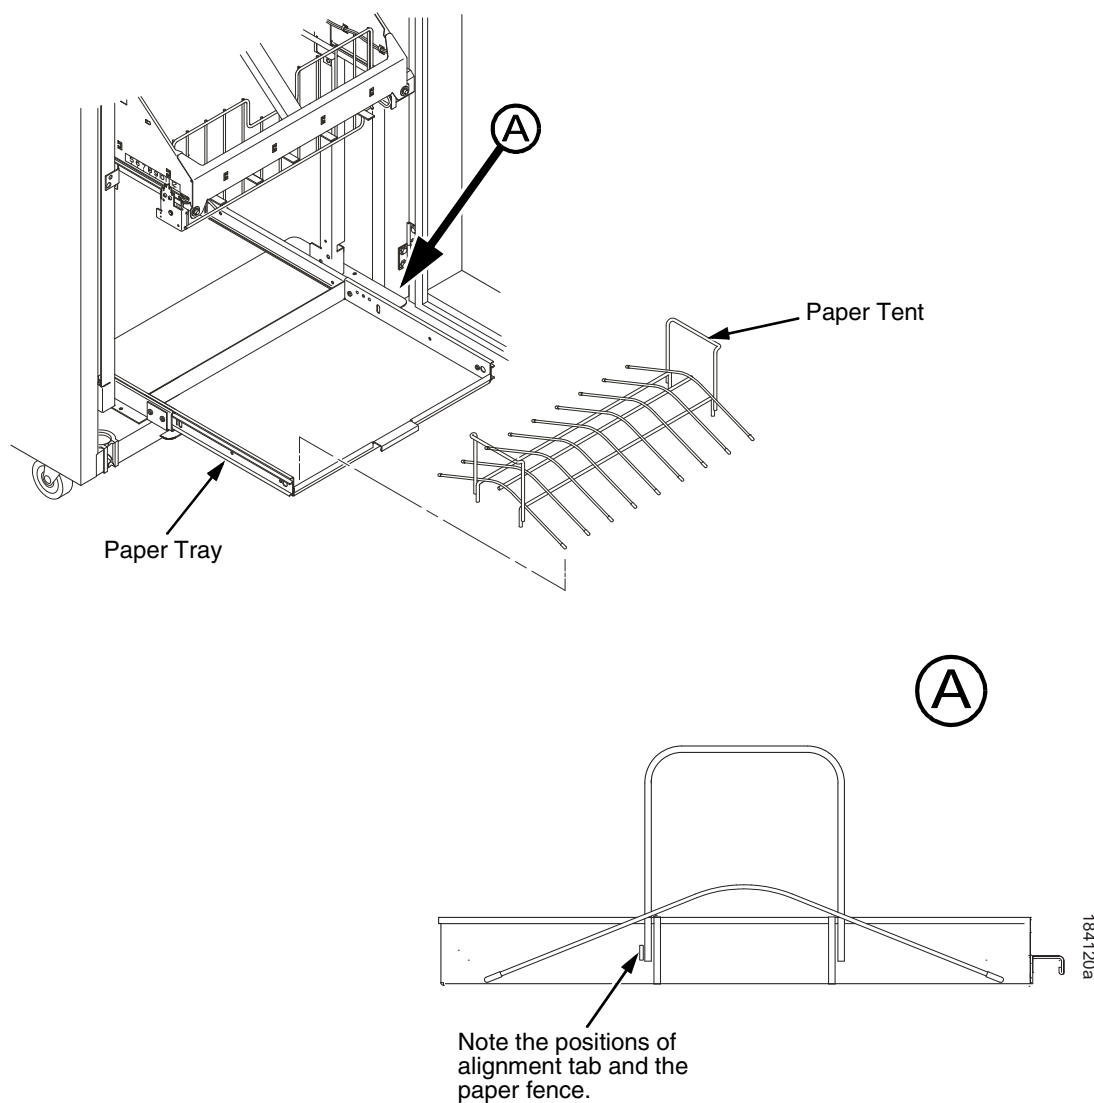

Figure 29. The Paper Tent
4. If the paper you will use is not wider than 15.5 inches (39.5 cm) pull out the paper tray and install the wireform paper tent. (Figure 29.) If the paper is wider than 15.5 inches (39.5 cm) leave the paper tent out of the printer.